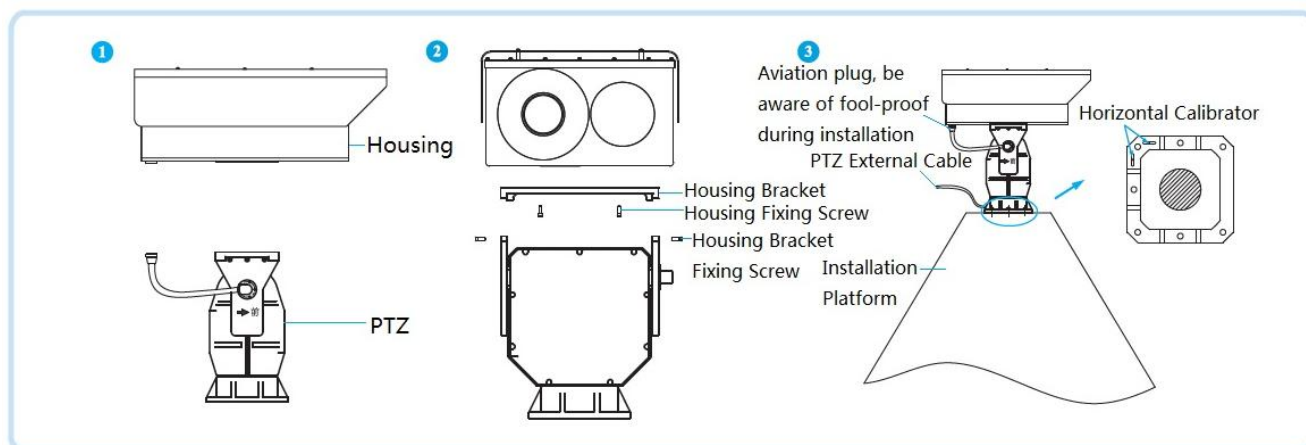

Figure 3-1
The PTZ side is marked with front sign (as it is shown in figure 3-1 (1)), pay attention not to install it reversely, make sure the lens direction is in accordance with the indication direction.